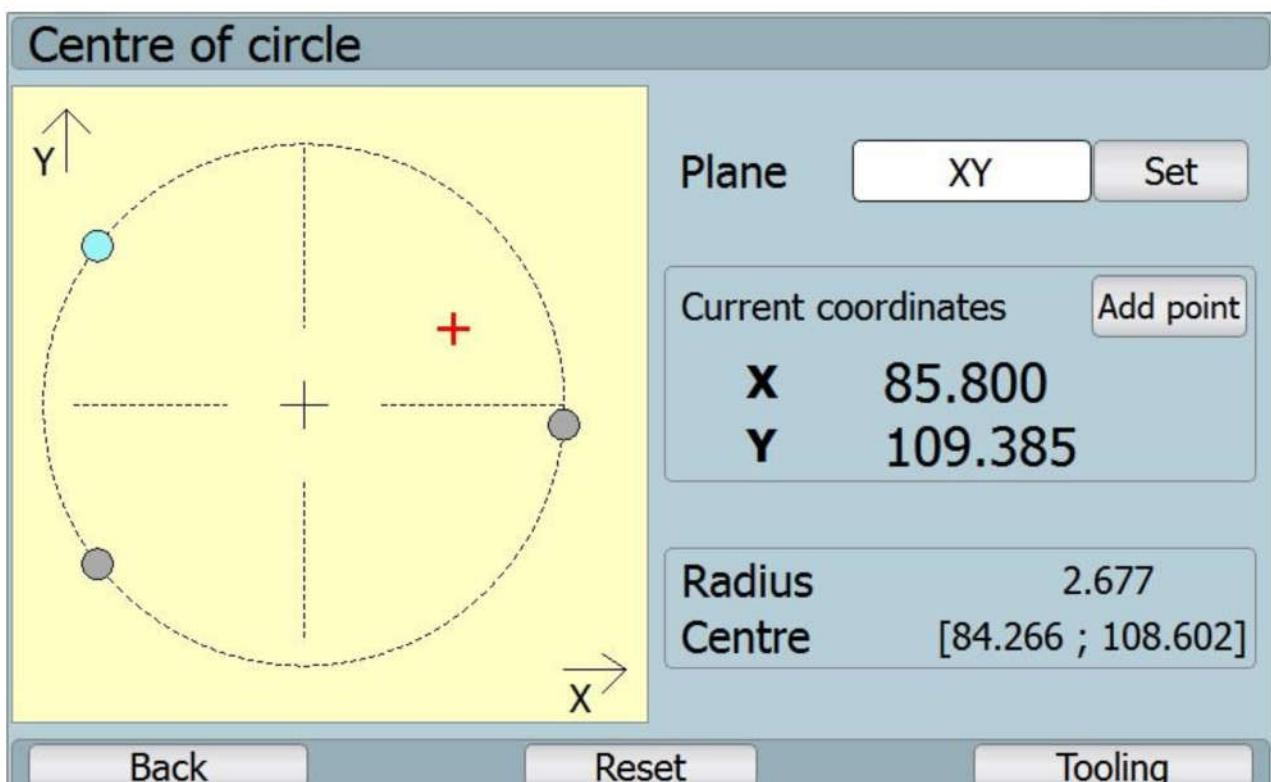

Fig. 25: Searching for the circle centre
- ⑩ It is used for finding the circle centre entered by means of individual points on the circle circumference.
- ⑩ At first, select the plane for searching the centre.
- ⑩ Use button „Pridat bod“ (add point) to add individual points with the actual coordinates (coordinates from encoders) displayed (see fig. 25: Searching for the circle centre).
- ⑩ After entering at least three points, automatically searches for the circle centre and draws in the scene.
- ⑩ It is possible to enter any amount (at least three).
- ⑩ After finding the centre, the circle diameter and centre coordinates are shown.
- ⑩ Button „Reset“ sets everything in the initial state.